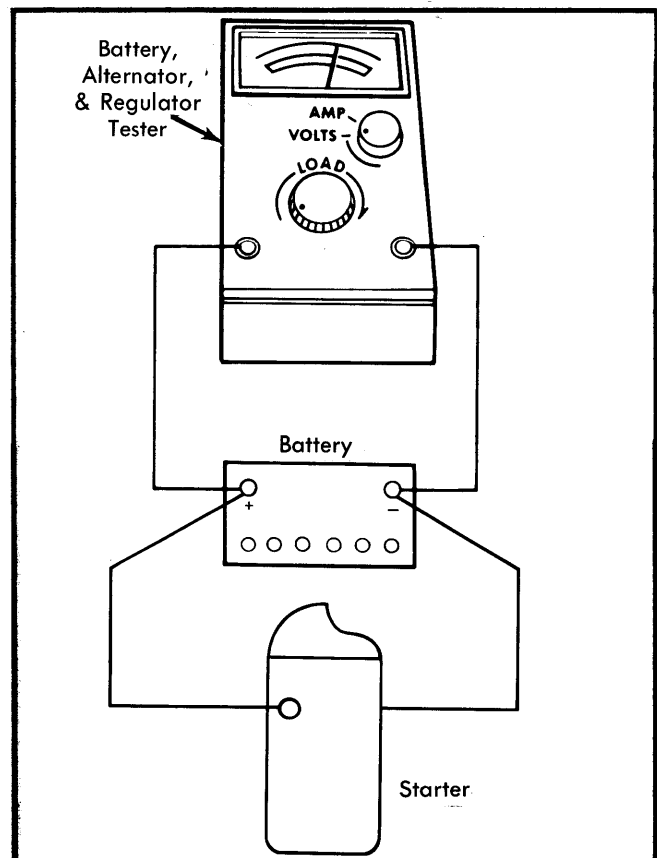

Fig. 3 Starter No-Load Test Connections:
1) Connect battery, alternator, regulator and starter motor tester as shown in Fig. 3. Turn tester load control knob to the extreme counterclockwise (decrease) position. Turn tester to voltmeter position. Crank engine, determine exact starter motor RPM using a mechanical tachometer, and record voltage.